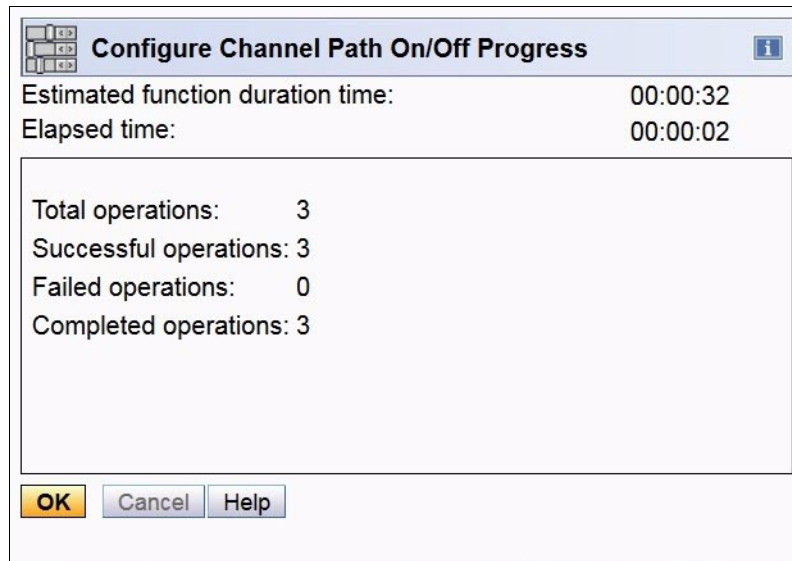

Figure 10-29 SE: Config On/Off (Standby completed)
- Confirm that your request is completed (Figure 10-29). Click **OK**.